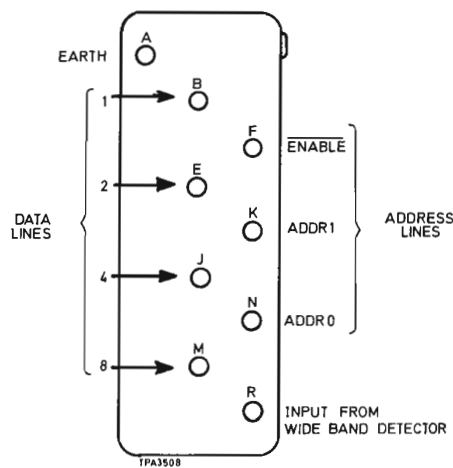

Fig. 2 Socket for control cable to TK 2366
10. The control cable supplied with the Base Band Filter Unit TK 2366 connects to the 14-way T0 TK 2366 socket on the receiver rear panel. Contact assignments for the socket are shown in Fig. 2. When fitting the cable secure it by means of the locking screws.